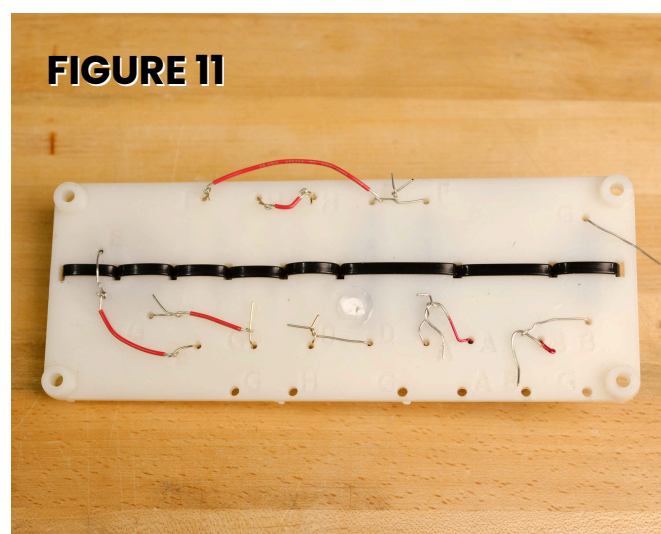

FIGURE 11
5. On the backside of the board, solder the leads together that share common letters (e.g., A to A, or B to B to B, etc.) using the supplied red hookup wire as necessary. Ensure that no bare wires are accidentally touching (*figures 11 & 13*).